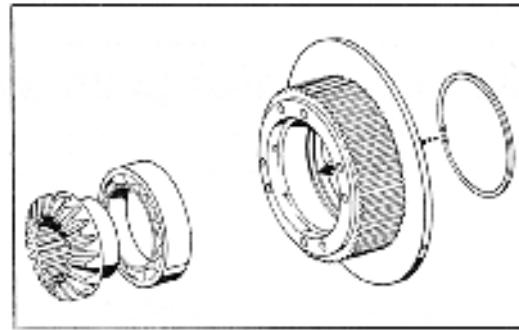

Fig. 28. Reverse Clutch Flange, Roller Bearing and Bevel Gear.
8. Likewise press the other ball bearing into reverse clutch flange. On HP clutch be sure to install snap ring in outermost groove of reverse flange (see fig.28). Then press bevel gear into ball bearing. Check that ball bearings on both flanges are well sealed.